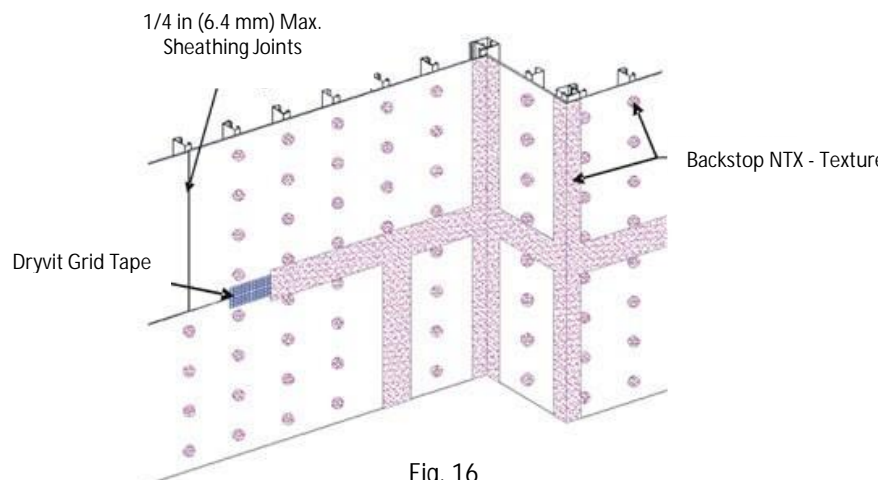

Fig. 16
- 1) Apply Dryvit Grid Tape as described in Section VI.F.1 above. Mix the Backstop NTX - Texture material as described in Section III.B.2. Using a stainless steel trowel or spatula, apply a layer of Backstop NTX - Texture over the Dryvit Grid Tape and spot all fastener heads – Figure 16.